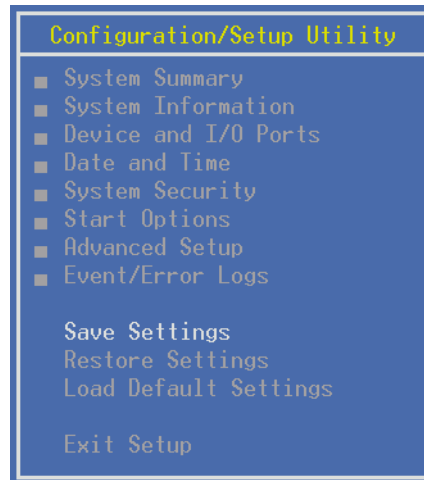

Figure 5-2 BIOS Configuration/Setup Utility window
1. At System Boot up press F1 to enter the BIOS **Configuration/Setup Utility** window, shown in Figure 5-2.
- Check that the memory cards installed in the server are detected as shown in the Memory Settings window (Figure 5-8), which also shows memory array, scrub on every boot, and the scrub rate at run time. (To open the Memory Settings window, select Advanced Setup in the Configuration/Setup Utility window, shown in Figure 5-2 on page 254.)